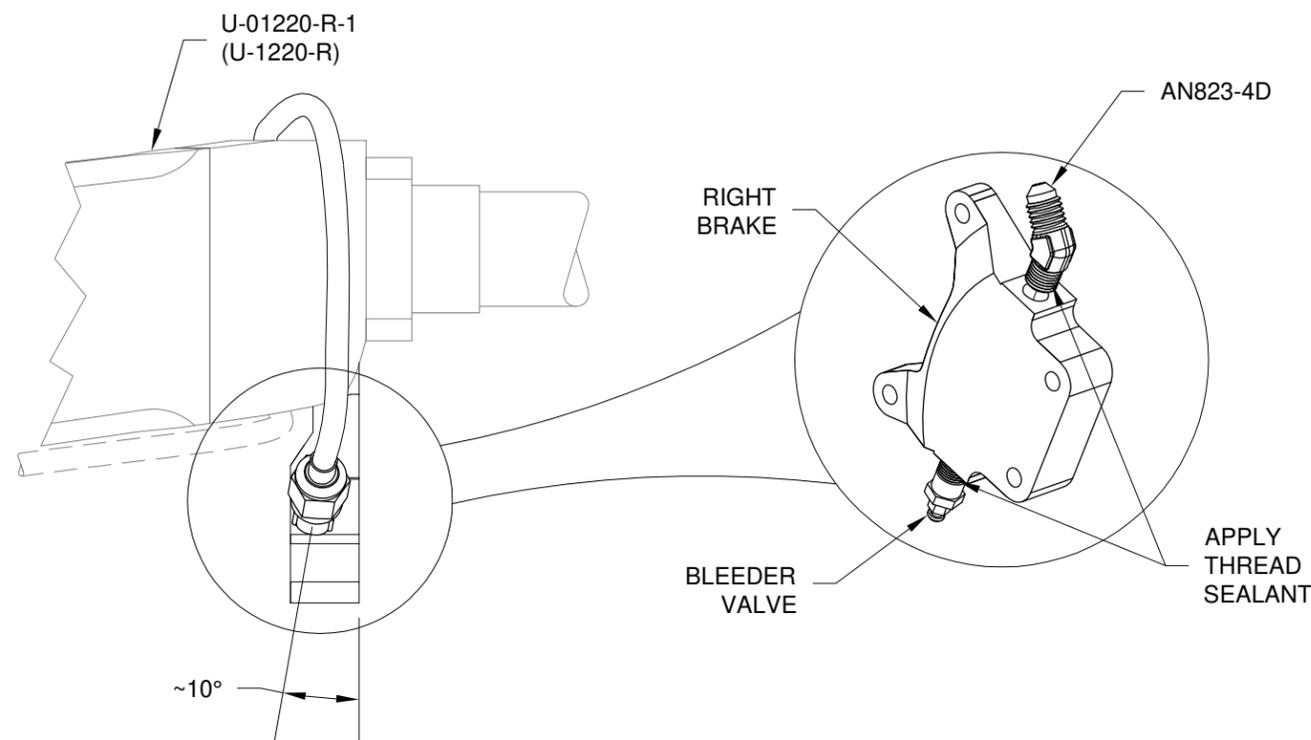

FIGURE 1:
Step 1: Apply pipe thread sealant and attach the fluid fittings to the brake as shown in Figure 1. Angle the elbow fitting about 10° outboard to direct the brake line away from the the gear leg. Note that the brakes should mirror each other when installed.